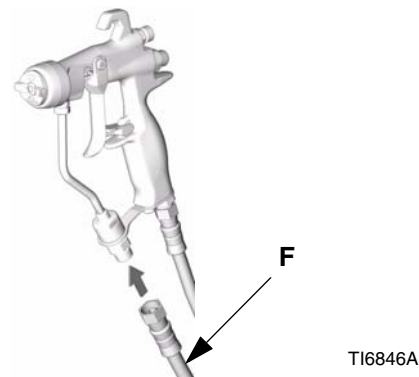

FIG. 4
2. Connect the fluid hose (F) to the gun fluid inlet. See FIG. 4. If desired, install a fluid swivel connector (115898) at the gun inlet for best maneuverability. See Accessories, page 33.